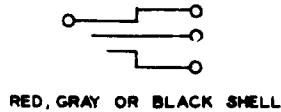

Fig. 9—309 Plug
2.08 309: The 309 plug (Fig. 9) has three conductors and is equipped with a long shell which covers the cord end of the plug body to provide additional insulation. The 309 plug replaces the 109 and the 202B plugs, and is used with the 92- or similar-type jacks.